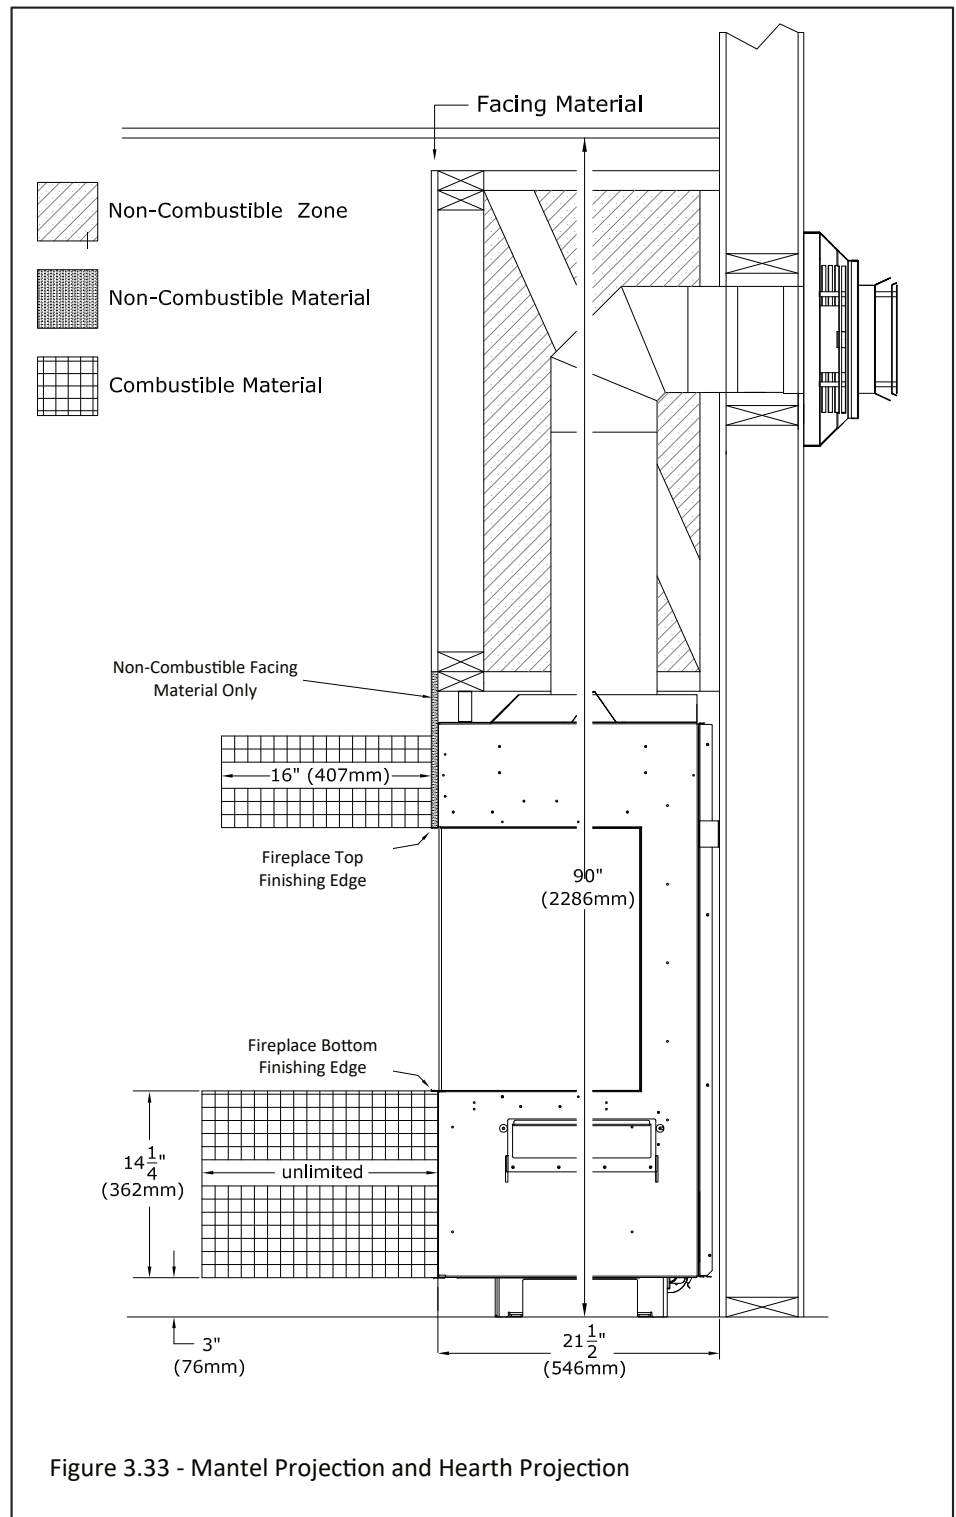

Figure 3.33 - Mantel Projection and Hearth Projection
- **Combustible Mantel Projections:** A maximum of a 16" (406mm) mantel can be installed flush at the side and top finishing edge. See Figure 3.33.
- **Combustible Hearth:** Combustible hearth can have an unlimited projection. Hearth can be raised flush to the bottom finishing edge. See Figure 3.33.